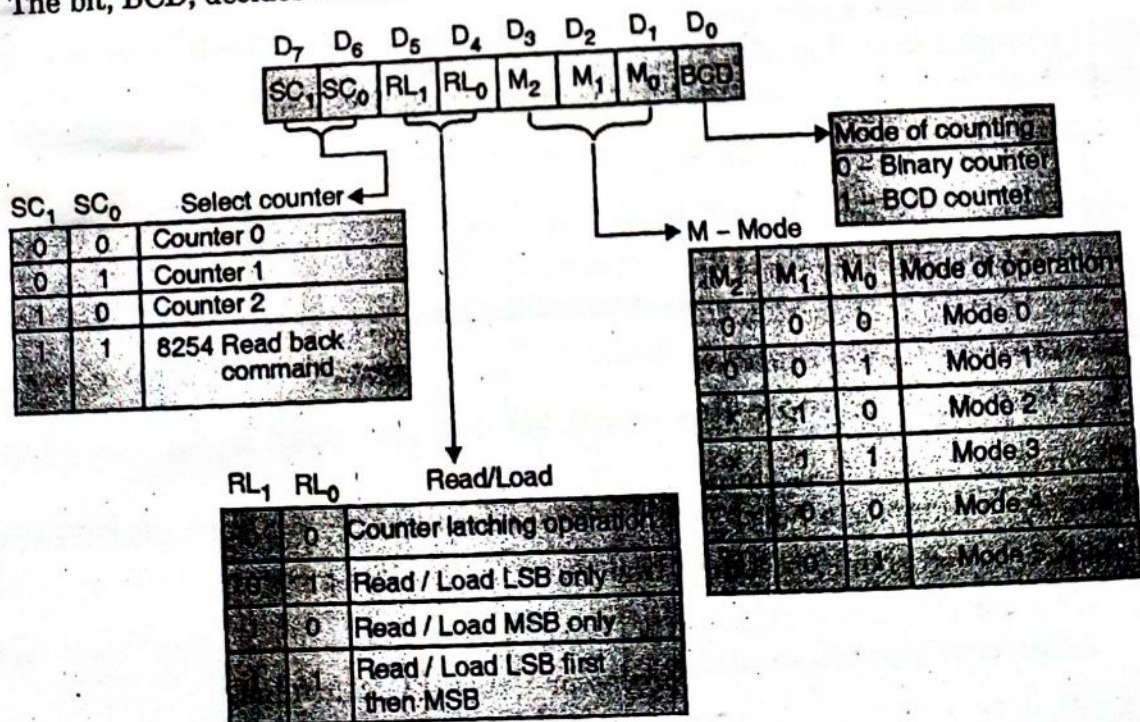

Fig. 19.5.1 : Control word register format
- The control word register format is as shown in Fig. 19.5.1.